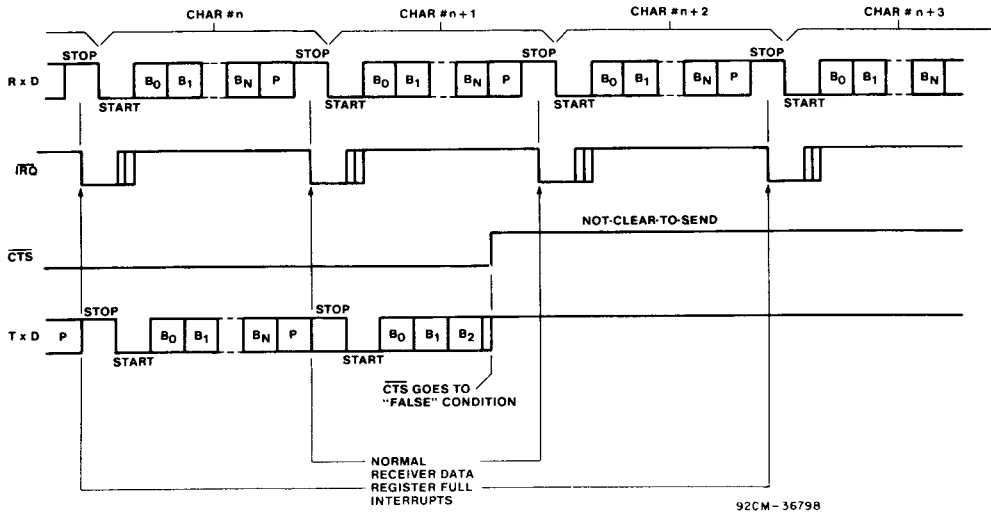

Fig. 13 - Effect of  $\overline{CTS}$  on echo mode.
**Effect of  $\overline{CTS}$  on Echo Mode Operation (Fig. 13)**